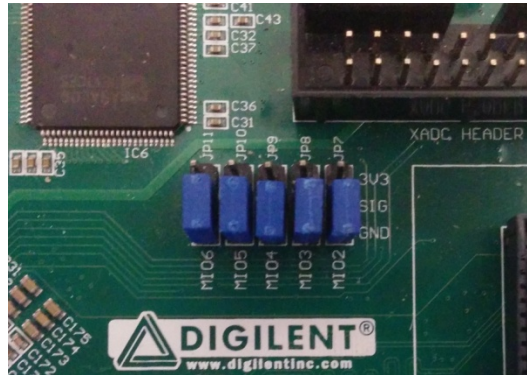

Figure 8. JTAG Mode Jumper Settings
2. Configure the ZedBoard boot source jumpers as shown in Figure 8, and remove the shunt on JP6.